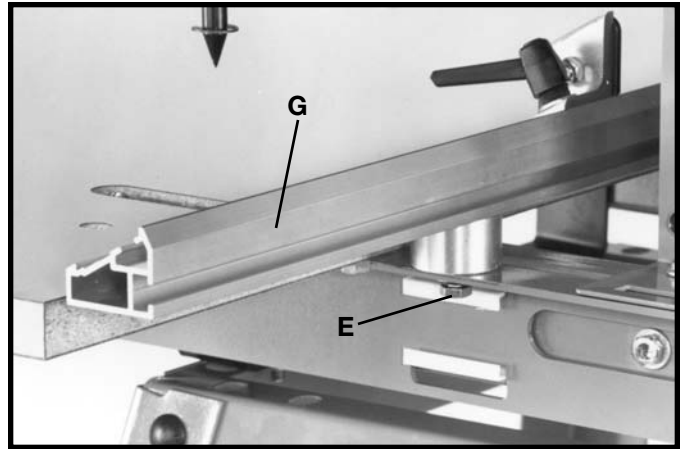
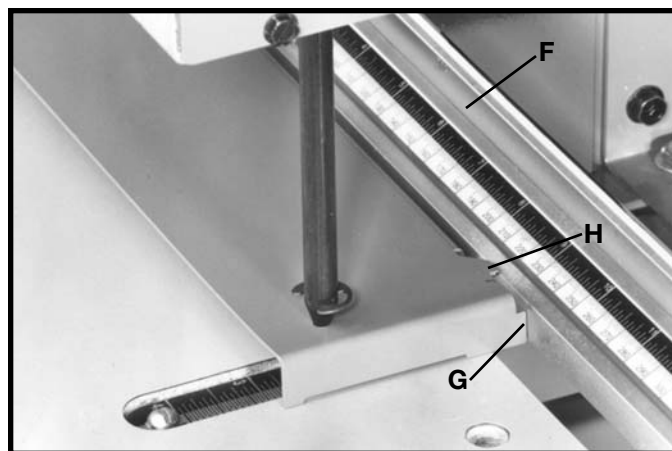

Fig. 15
Fig. 19
4. Figure 15 illustrates the fence (G) assembled to the table bracket. **NOTE:** Do not completely tighten the two screws, one of which is shown at (E), at this time.
6. Loosen the two screws (E) Fig. 15, that fasten fence (F) Fig. 19, to the machine and move fence (F) until front surface of fence contacts gage at point (G) as shown, at each end of the gage. Move the fence left or right until the right fence stop, that was set in **STEP 1**, contacts the gage at point (H). Then tighten the fence mounting hardware. **NOTE: FENCE STOP IS NOT SHOWN FOR CLARITY.**